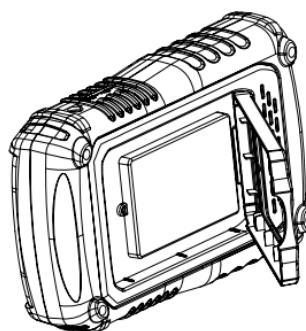

Figure 2
2. Draw back the packing block of the Handheld Digital Oscilloscope , and then dismantle the battery cap, as figure 2 shows.